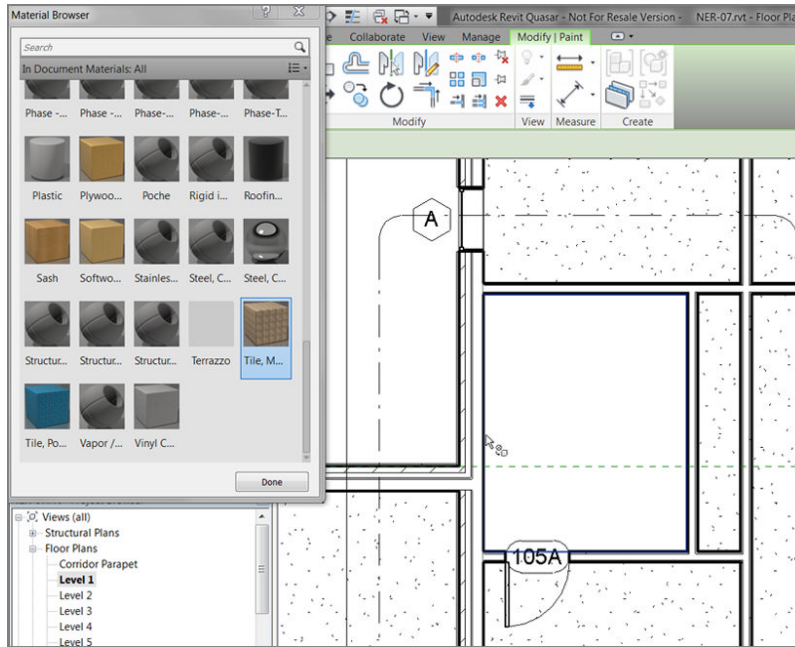

FIGURE 6.45: Filling the region with the new material
3. With the Material Browser still on the screen, move your cursor over the region you just created. Notice the material icon next to your cursor, as shown in Figure 6.45. The tooltip identifies the face region.